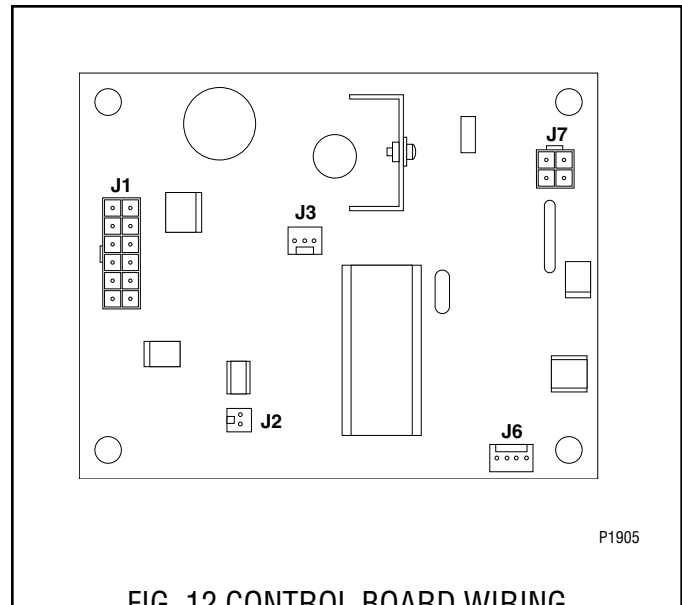

FIG. 12 CONTROL BOARD WIRING
7. Reconnect the two plugs (J1 and J7) from the main wiring harness, the potentiometer plug (J3), the photo transistor plug (J6), and the photo LED plug (J2) to the control board. Refer to Fig. 12.